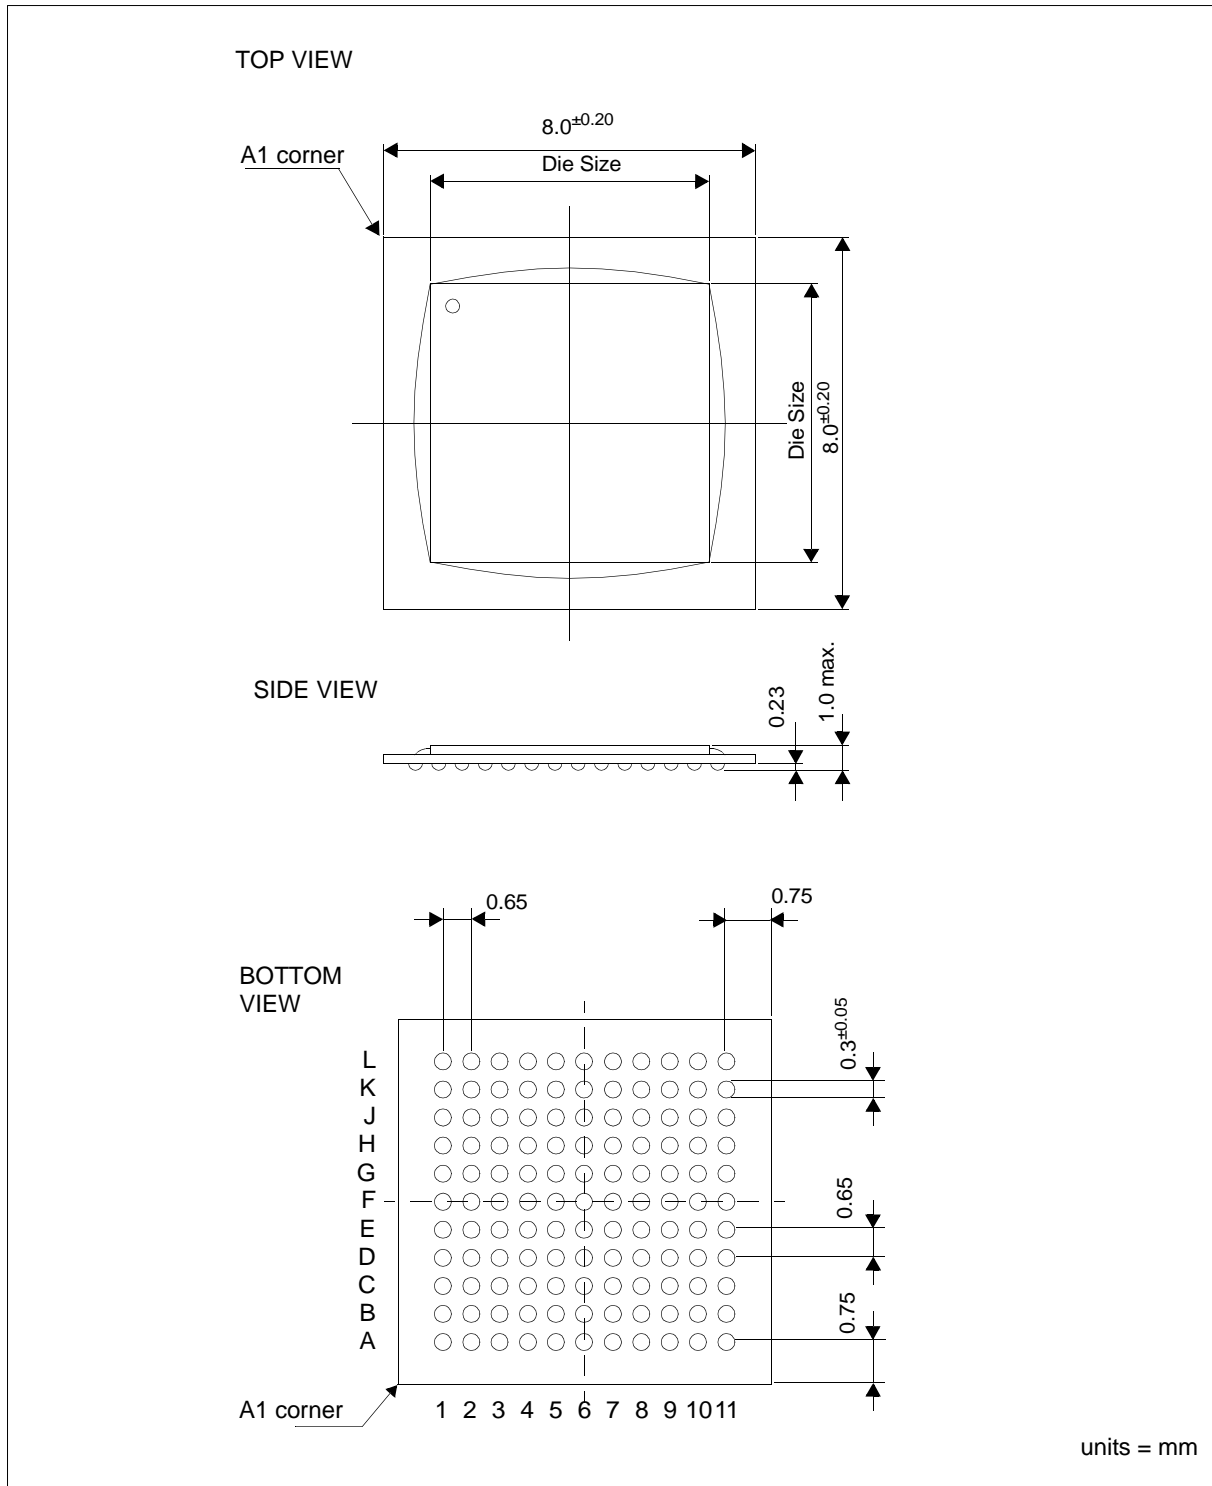

Figure 23-1: S1D13743 FCBGA 121-pin Package
- section 23 - in Figure 23-1, change Side View ball height to 0.23mm